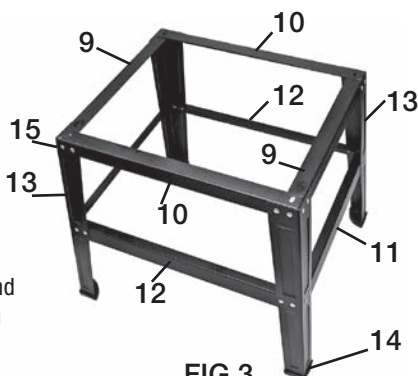

FIG 3
9. Short Top Brackets (A)	2
10. Long Top Brackets (B)	2
11. Short Support Bracket (C)	2
12. Long Support Bracket (D)	2
Use Screws, Washers and Nuts (15) to attach the stand pieces. Do not tighten the screws completely until leg stand is completely assembly. (See FIG. 3)
1. Attach the short top brackets 9 (A) to the stand legs 13.
2. Attach the long top brackets 10 (B) to the stand legs 13
3. Attach the short support brackets 11 (C) to the stand legs 13
4. Attach the long support brackets 12 (D) to the stand legs 13